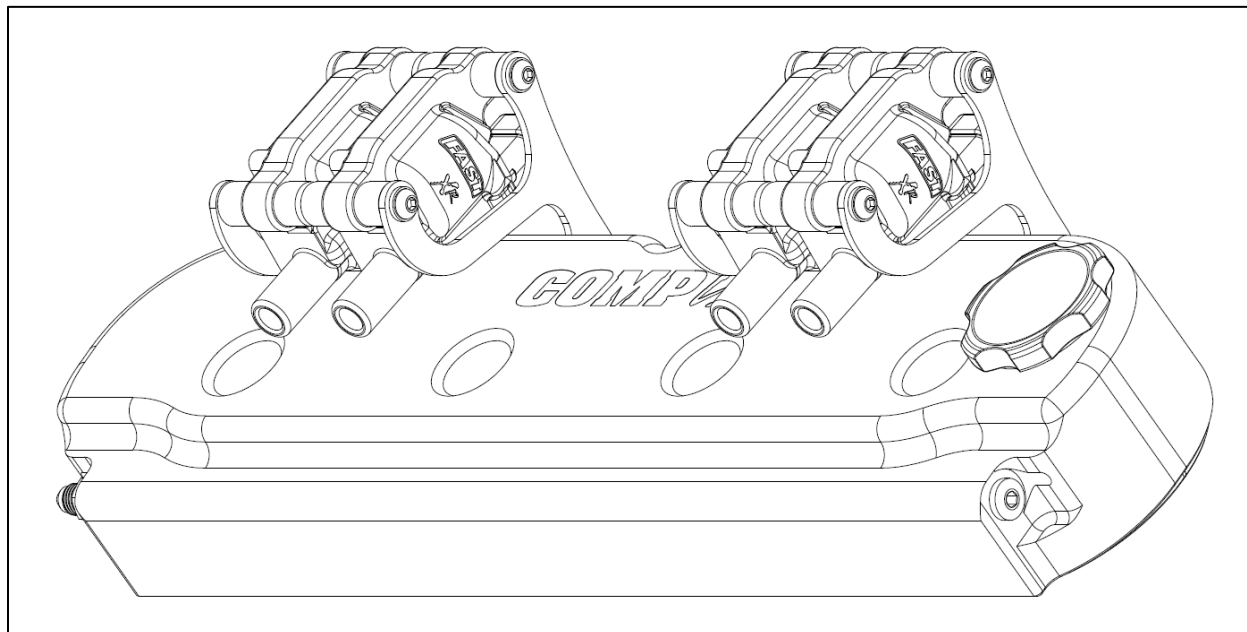

Figure 5 - OPTIONAL P/N 290-KIT for LS3 Ignition Coils
9. If using a stock style ignition coil bracket, the COMP Cams® Billet LS Valve Covers can be drilled to accept the stock ignition brackets by following Figure 5, below.